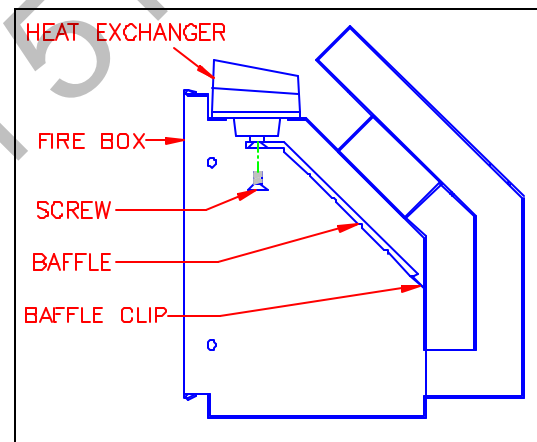
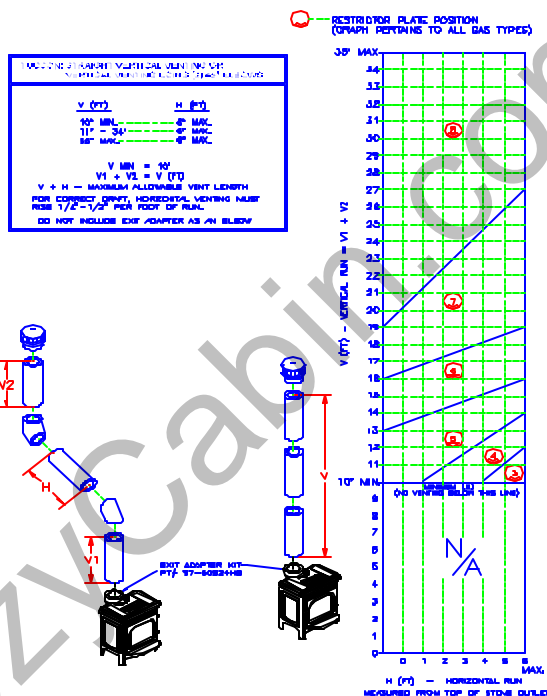
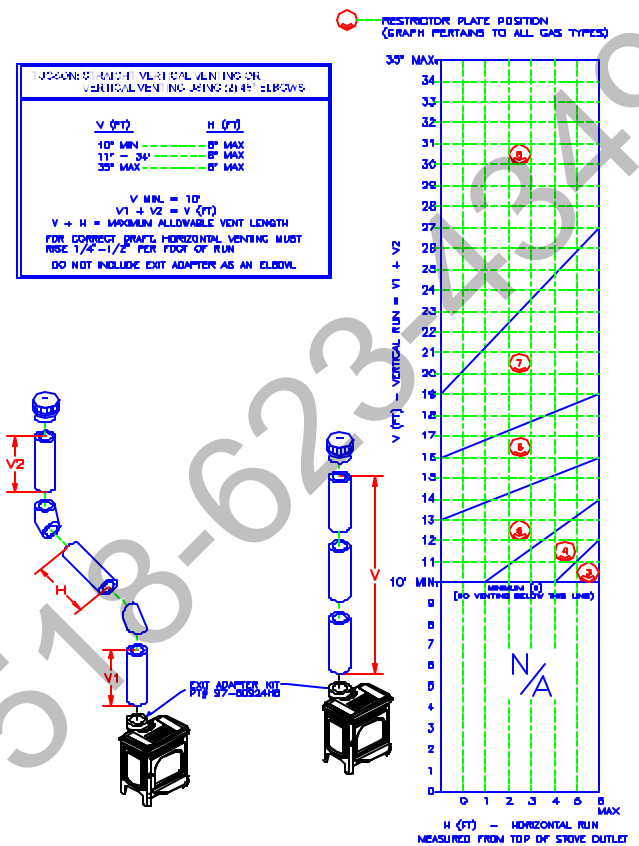

Figure 10: Baffle Removal
Figure 15: Vertical Termination Using (2) 90° Elbows
Figure 14: Vertical Terminations Using Straight Pipe
Remove the log set before adjusting restriction plate by following the log set removal on page 29. Make sure the unit is cool before touching any part of the firebox and log set. Remove the exhaust baffle by removing the one screw in the center of the baffle (refer to Figure 10). The baffle will fall out once the screw is removed. Be careful not to drop the baffle on the burner tube or burner tube holder. Once the baffle is set aside, check the restriction plate screw location. There are eight locations that the restriction plate can be positioned. (refer to Venting Configuration – Figures 14 – 16 for recommended restriction plate positions)
APPROVED VERTICAL TERMINATION VENTING CONFIGURATIONS WITH NO ELBOWS OR (2) 45° OFFSETS, FIGURE 14, AND (2) 90° ELBOWS, FIGURE 15.
- 6' maximum offset (refer to Figure 14)
- 11' maximum offset (refer to Figure 15)
- The termination must fall within the Outline shown in the Figures 14 & 15. Use the indicated restriction plate position. The Restriction Plate part # is 5950-922.